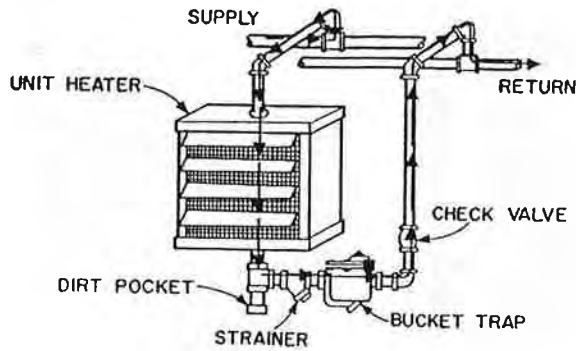

Fig. 9-9. Inverted-bucket trap installation.
9.35 Traps are often used for handling condensate from fan coils, unit heaters, unit ventilators, and ventilating coils. How this is done is shown in Fig. 9-9. Note that under the unit heater the pipe is capped and a sediment pocket or sump is formed. In addition, a strainer is installed in the line between the unit heater and the trap.
9.38 This trap is used where the condensate is led to a return line, as illustrated in Fig. 9-9. Note carefully the elements in this drawing. The check valve in the vertical pipe leading from the trap to the return line permits flow in one direction only. In this case, the condensate can only move upward to the return.